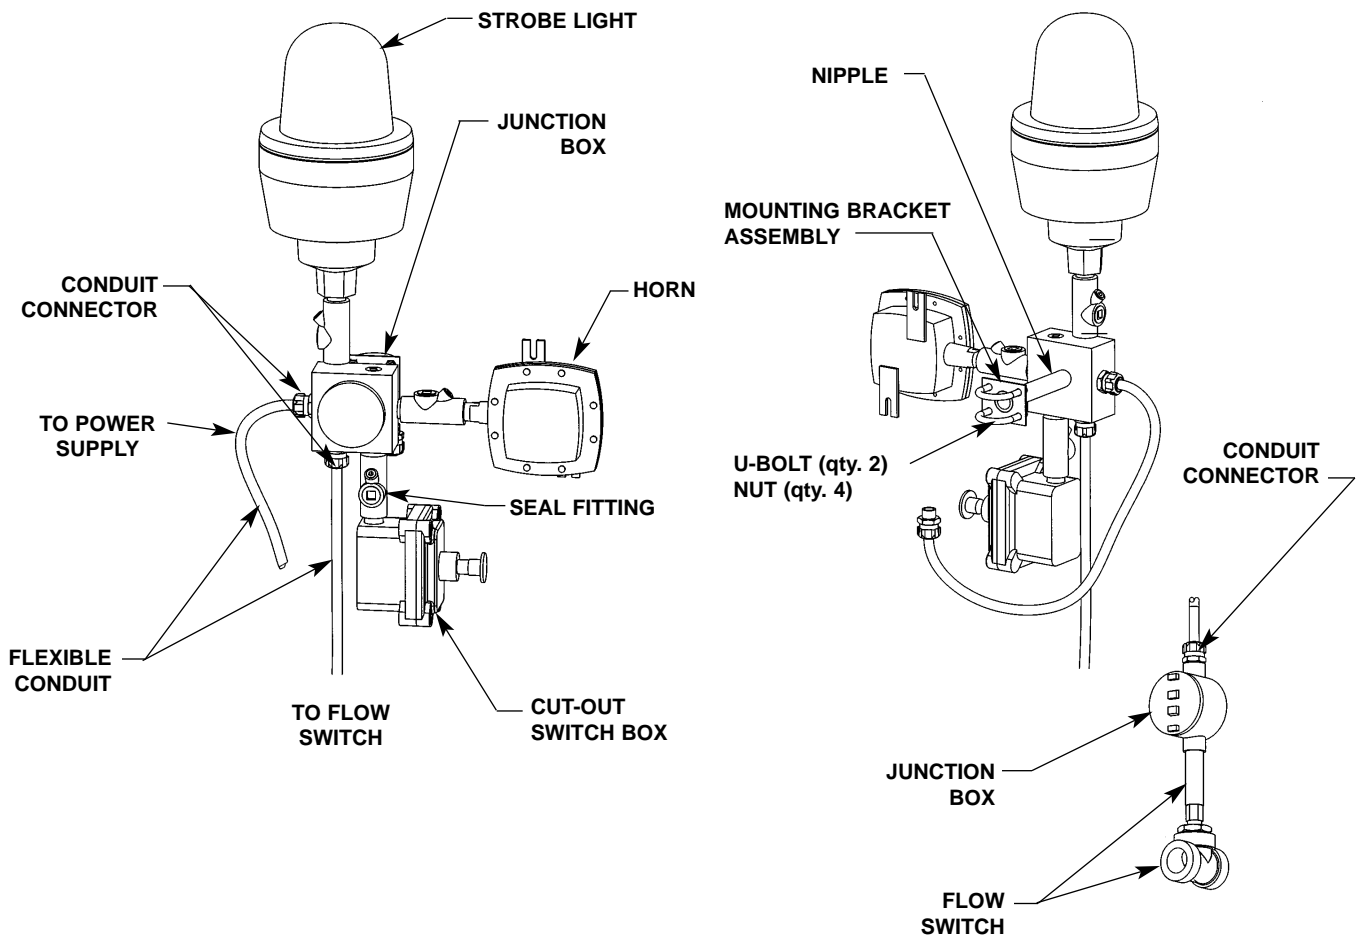

Figure 3
*NOTE: Testing the alarm for the first time using the drench shower may expose the flow switch to an unnecessary water hammer since the downstream piping may be empty of water. The flow switch is designed to withstand such a water hammer, but using the smaller eye wash flow is recommended. Refer to Figure 3 when testing the alarm system.*